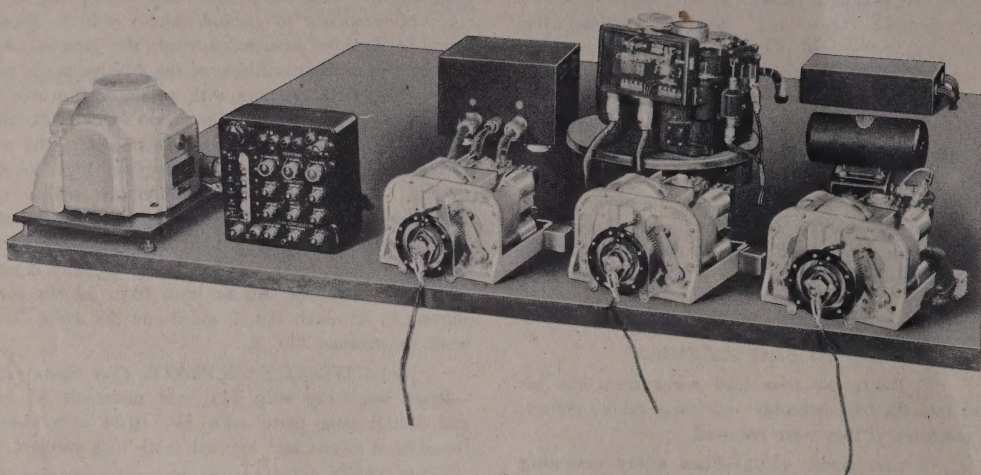

Figure 420 — C-1 Autopilot System on Mock-Up Table
a. MOCK-UP TABLE.—Figure 420 shows the units of the autopilot system properly connected on a typical mock-up table, ready for the mock-up test. Figure 421 shows diagrammatically the way in which the mock-up table is wired to make the proper connections to the junction box mounted on the table. In figure 421, the prong letters or numbers of each AN receptacle on each unit are shown, together with the wire numbers in the connecting cable. The junction box terminals to which these numbered wires attach are indicated on the outside edges of the rectangle which represents the